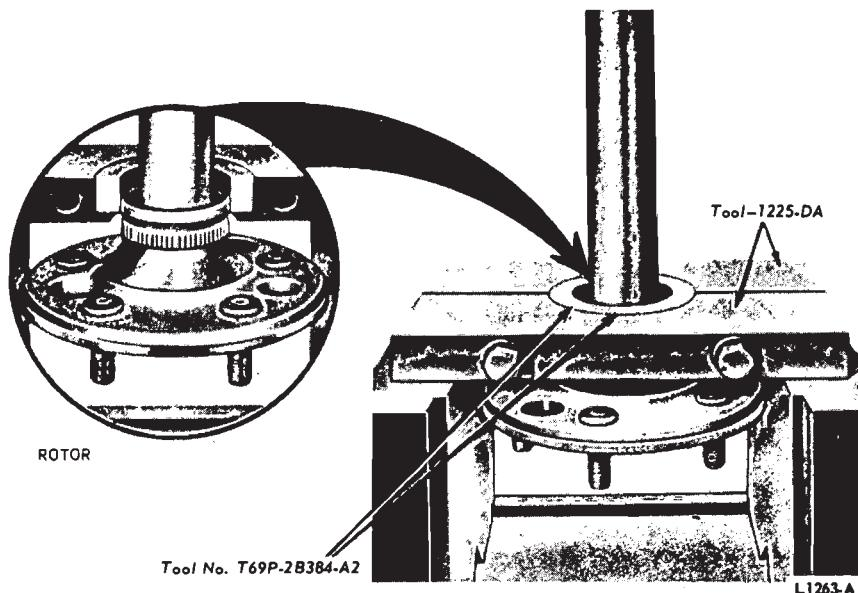

FIG. 16—Sensor Rotor Removal
8. Remove the sensor stator assembly and press the sensor rotor off the shaft with tool T69P-2B384-A 2 and TOOL 1225-DA (Fig. 16).